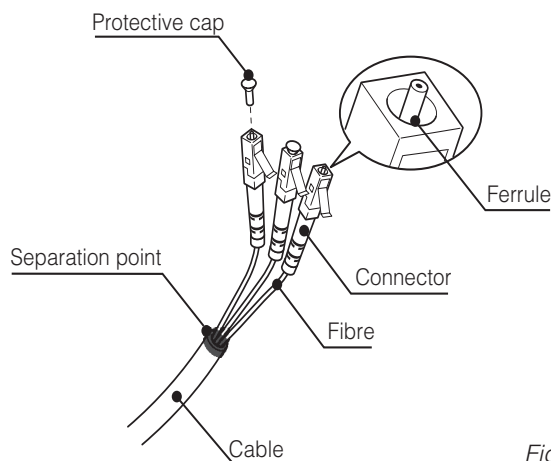

Fig. 7
- The individual optical cables are delicate: always handle the main cable without touching the individual optical cables (Fig. 7).